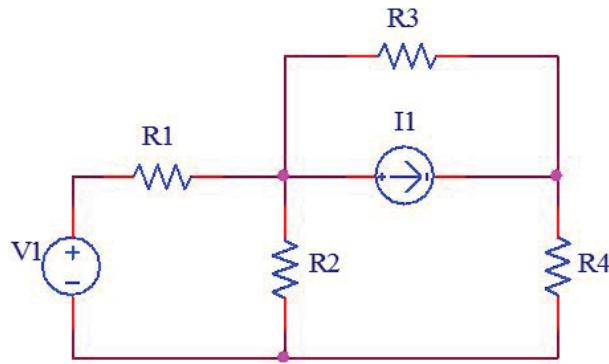

Figure 3.1: Example circuit
Consider the circuit shown in Figure 3.1. In this circuit there are six (6) **branches**: V1, R1, R2, R3, R4, and I1. There are four (4) **nodes**: the connections between V1 and R1; the connection between R1, R2, R3, and I1; the connection between I1, R3, R4; and the connection between V1, R2, and R4. There are six (6) **loops**. Loop 1 contains V1, R1, and R2. Loop 2 contains R3 and I1. Loop 3 contains R2, I1, and R4. Loop 4 contains V1, R1, I1, and R4. Loop 5 contains R2, R3, and R4. Loop 6 contains V1, R1, R3, and R4. Even though technically there are six loops, they are not all independent, i.e. loops that contain unique information. For most circuits we only need to identify *independent* loops.
So for our example circuit in Figure 3.1 there are $l = 6 - 4 + 1 = 3$ independent loops.